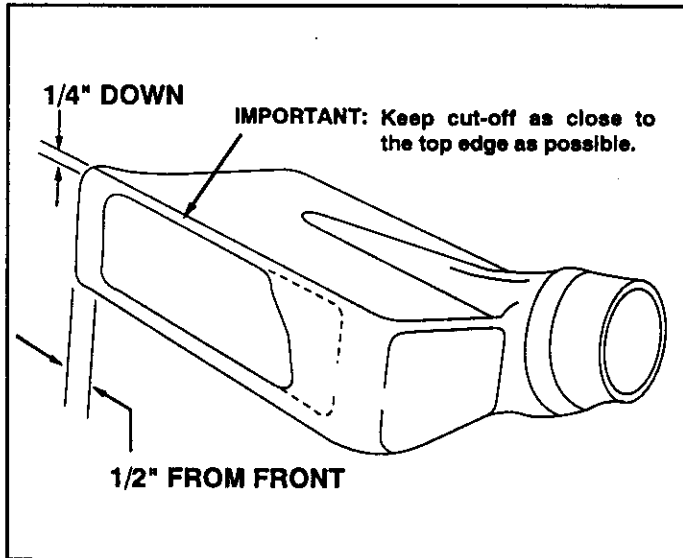

FIGURE 26
- Tape the template to the face of the adapter, locating template approximately 1/2" from front and 1/4" down from top of adapter. Keep as close to top as possible. See figure 26. Mark outline of template on face of adapter using white crayon, nail or scribe. Drill a starting hole inside the outline, then use a saber saw or key hole saw to cut out the opening. See figure 26.